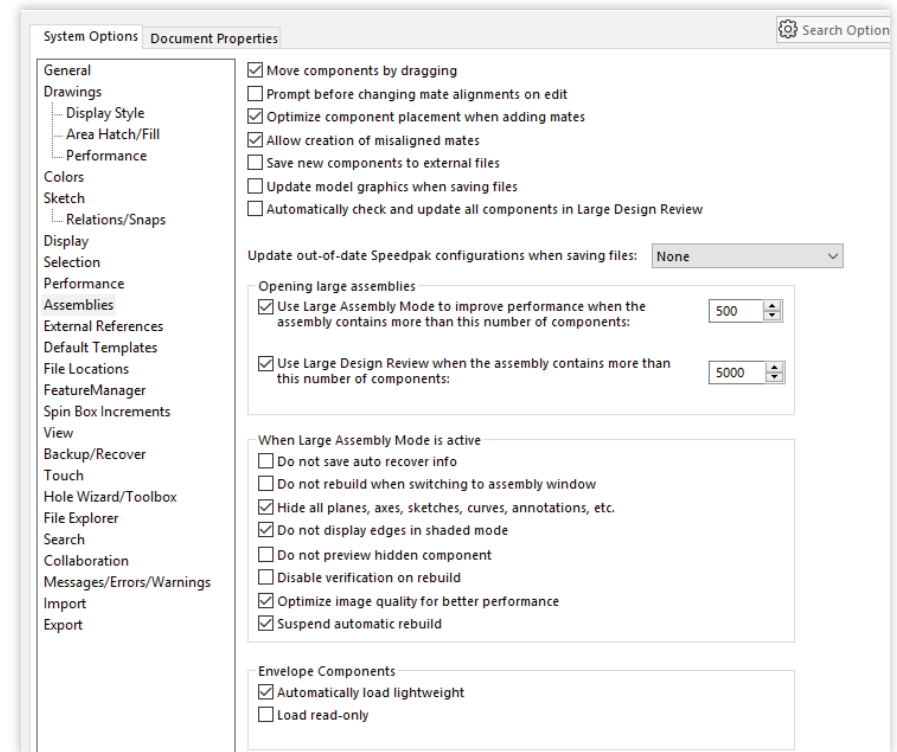

Fig. 28
5. Open the **Assemblies** page. In the middle of the page, check the **Use Large Assembly Mode to improve performance when the assembly contains more than this number of components** box. See Fig. 28.